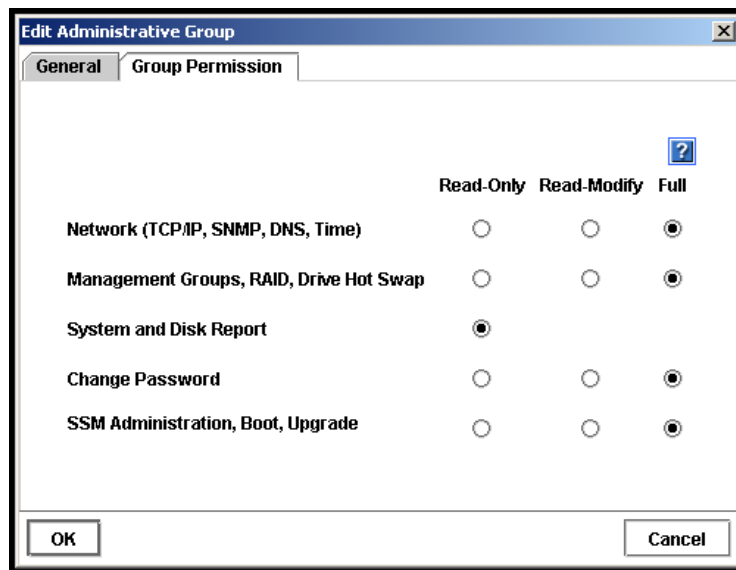

Figure 104. Adding Permissions to Administrative Groups
- From the Create Administrative Group window, click the Group Permission tab to bring it to the front, shown in Figure 104.